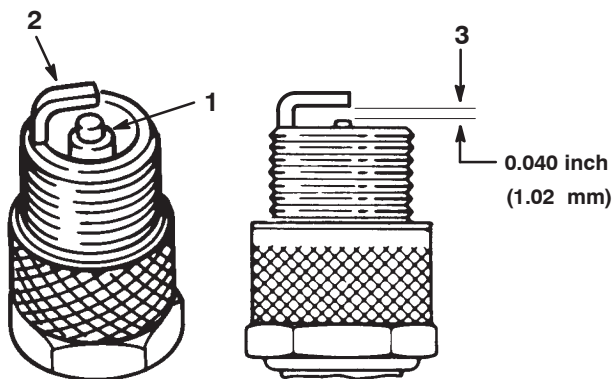

Figure 41
1. Look at the center of the spark plug(s) (Fig. 41). If you see light brown or gray on the insulator, the engine is operating properly. A black coating on the insulator usually means the air cleaner is dirty.
2. Check the gap between the center and side electrodes (Fig. 41). Bend the side electrode if the gap is not correct (Fig. 41).